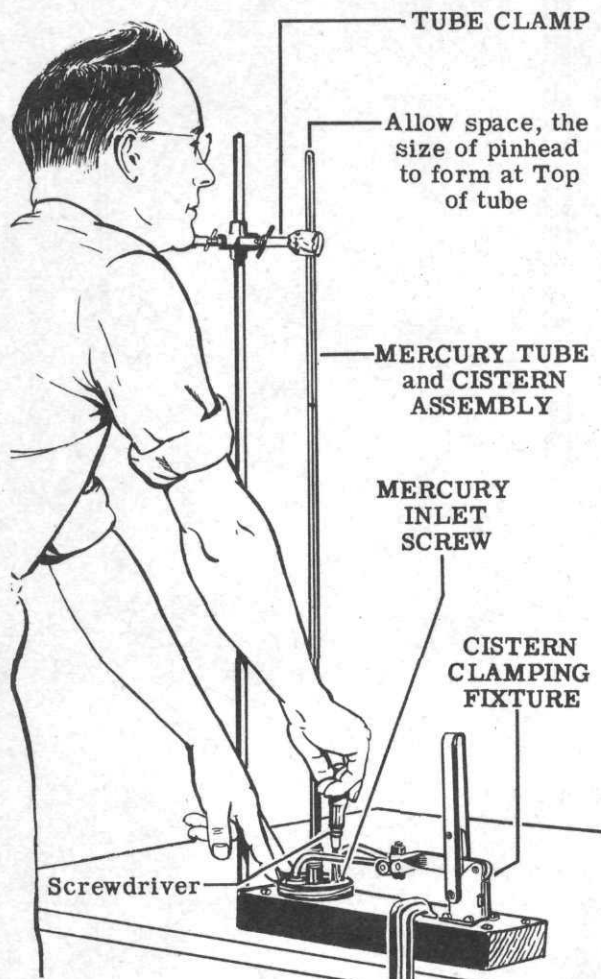
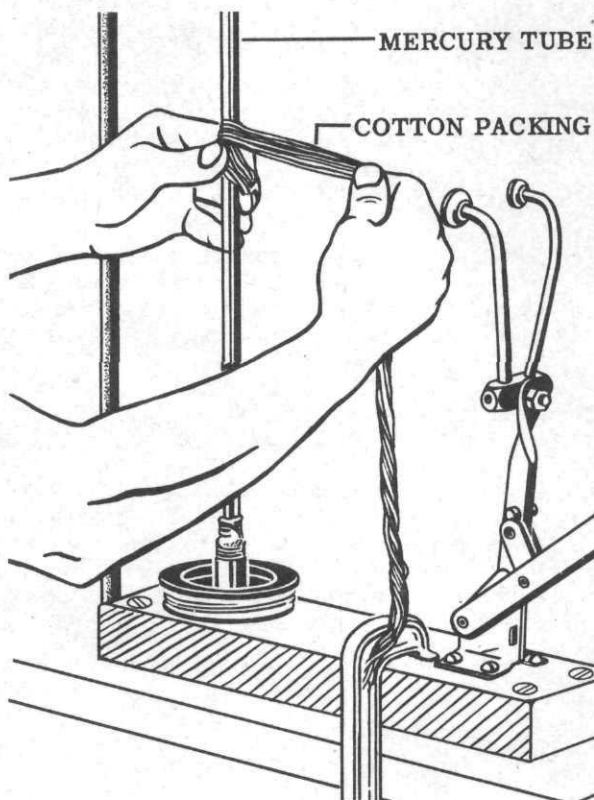

Figure 56
Figure 57
the size of a pin head, when the top and bottom cisterns are in contact. See Fig. 56.
73. If too much mercury is allowed to escape, release the double-pronged clamp and add mercury through the mercury inlet screw hole. Use the glass syringe equipped with hypodermic needle (Tool No. 15) to add this mercury. Recheck the space at the top of the mercury column. See Fig. 56 and refer to the "Special Service Tool List" in Section VIII for details of the special tool used here.
75. Release the double-pronged clamp from the top of the cistern assembly, and remove the tube clamp of the cistern clamping fixture (Tool No. 1) from the mercury tube. See Fig. 56 and Fig. 57.
above. Wind the cotton wrapping back and forth until sufficient layers have been built up to give the required diameter. Secure the packing in place by a criss-cross wind of linen thread, tie a knot in the thread and cut off excess thread. See Fig. 57 and the exploded view, Fig. 39.